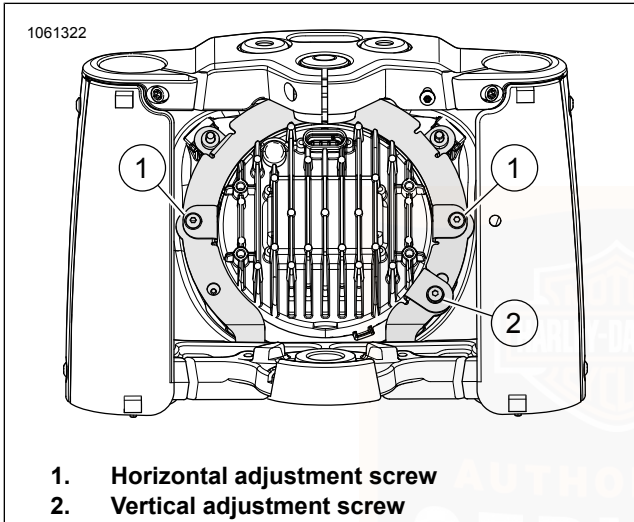

Figure 82. Headlamp Adjustment
1. See Figure 82. Rotate horizontal adjustment screw (1). Adjust headlamp horizontally to direct light beam straight ahead.
2. Rotate vertical adjustment screw (2). Adjust headlamp vertically until beam centers on horizontal line.